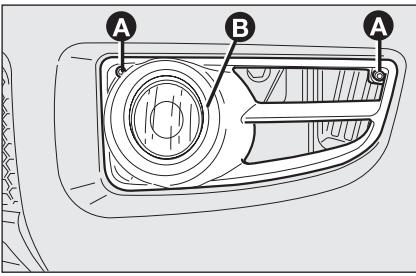

fig. 18
- loosen the two fastening screws **A**-**fig. 18** and remove the cover **B**;